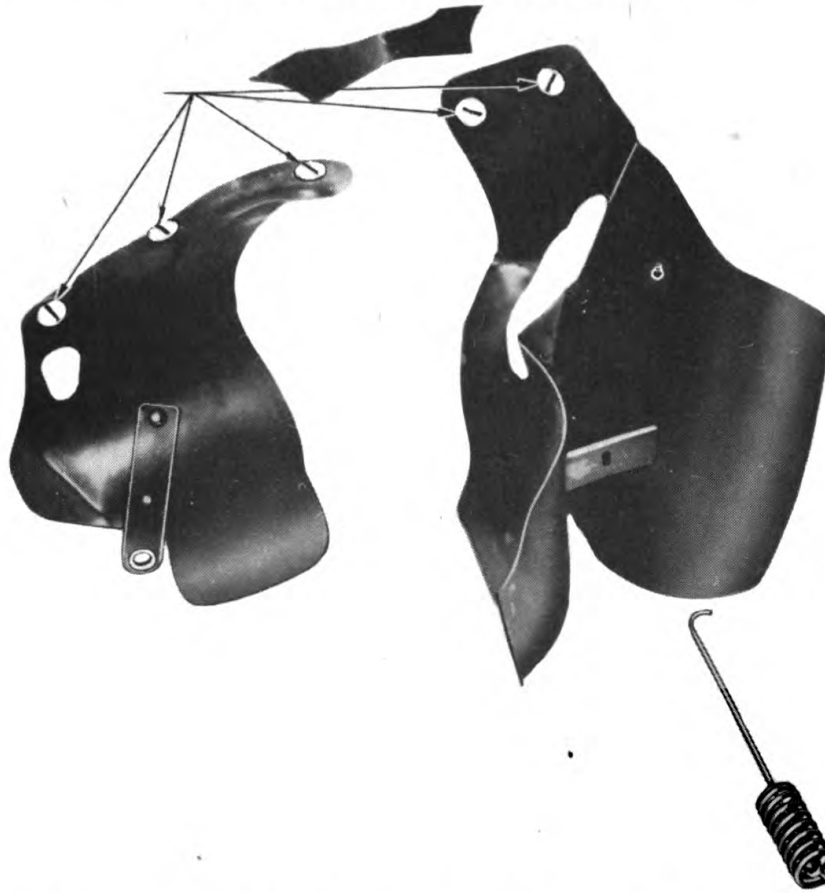

Figure 194 – Inter-cylinder and Cylinder Head Air Deflectors
71. AIR DEFLECTORS (fig. 194).